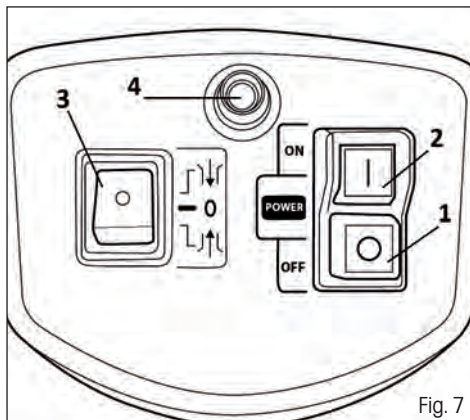

Fig. 7
Turning the shredder on and off (Fig. 7)
- ✿ To turn on the shredder, press the button with the "I" symbol. Fig. 7, point 2
- ✿ To turn off the shredder, press the button with the "O" symbol. Fig. 7, point 1
Forward / reverse rotation switch (Fig. 7, point 3)
- ⚙ The shredder is equipped with overload protection (Fig.7, point 4)
4. Press the safety fuse button (Fig. 7, point 4).